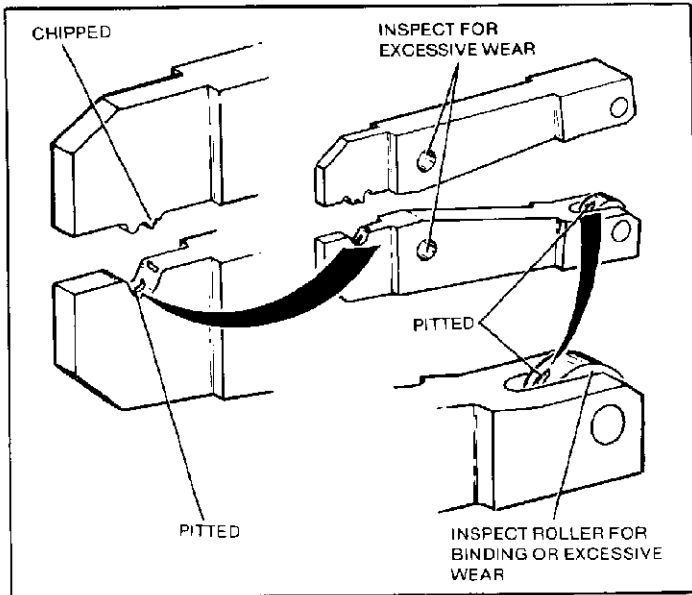

Figure 5
- Examples of possible worn or damaged jaw or cam roller surfaces are shown in Figure 5. If jaws are defective, refer to Figure 8 for customer replacement part numbers.